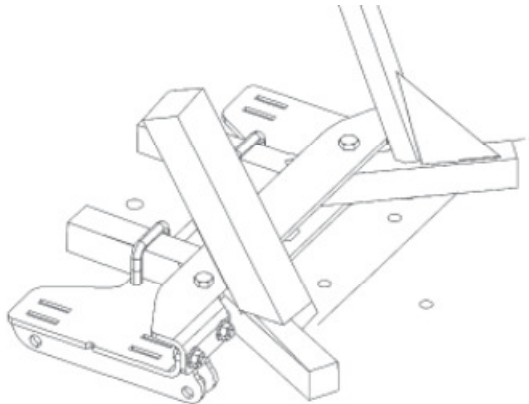

Figure 3 Assembled Plow Mount
7. Finally tighten the four 1/4" dia x 3/4" long bolts and 1/4" nylock nuts to a recommended torque of 7 ft-lb. The completed assembly should look like figure 3.